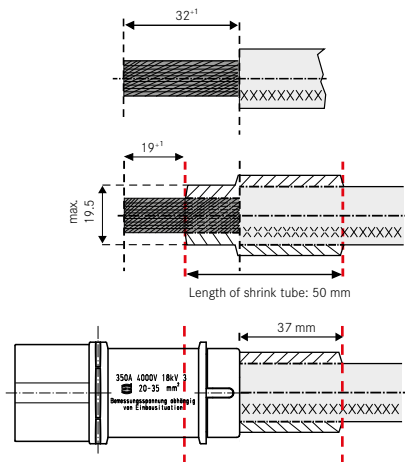

Figure IV-11: Shrink tube assembly over the cable for Han® HC Modular 350
- ① Strip the cable according to Figure IV-11 and Figure IV-12.
- ② The following points must be observed when applying the shrink tube directly on the cable:
- ③ Terminate the cable to the torque specified for the wire gauge (refer to Table IV-2, p. 32-35):